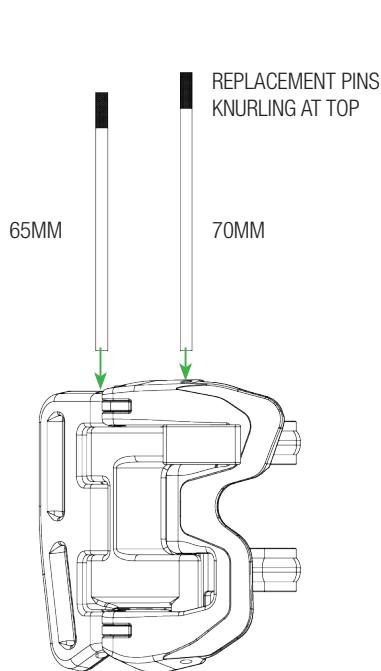

FIG.2:
STEP 1: INSERT THE PROVIDED REPLACEMENT PIN INTO THE ORIGINAL POSITION FROM THE UPPER SIDE OF THE BUCKLE WITH THE KNURLING FACING UPWARDS (FIG.2).